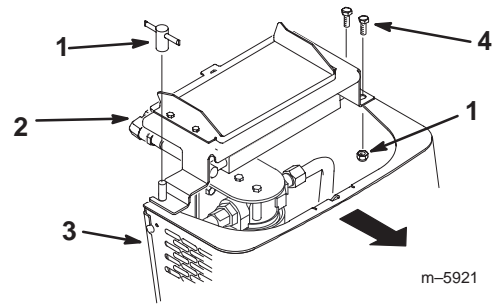

Figure 25
6. Remove the shoulder bolts, double washer, and nuts securing the oil cooler to the top of the front screen (Fig. 25).